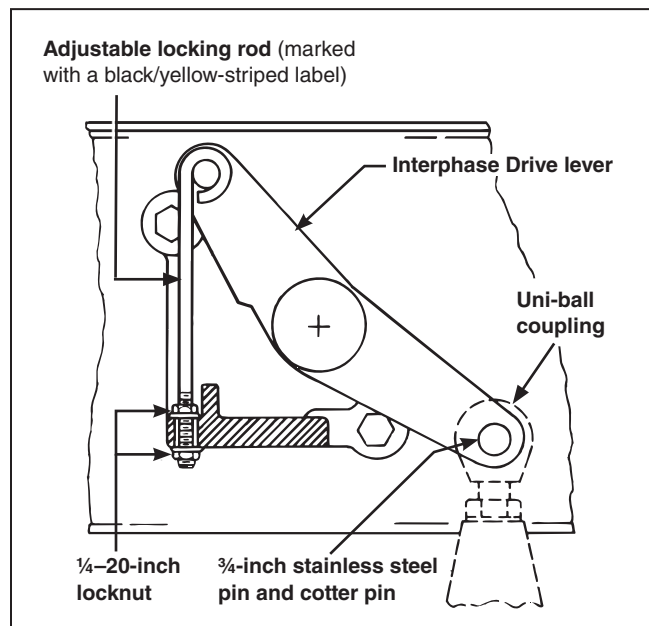

Figure 21. Attaching the Uni-ball coupling to the interphase drive lever.
- STEP 1.** Attach the uni-ball coupling on the operator connecting link to the interphase drive lever in the high-speed base using the $\frac{3}{4}$ -inch stainless steel pin and cotter pin retained from Step 1 on page 13. See Figure 21. An adjustable locking rod (marked with a black/yellow-striped label) is furnished factory-connected to the interphase drive lever. Turn the associated $\frac{1}{4}$ -20 locknuts as required to raise or lower the interphase drive lever and thus facilitate insertion of the stainless steel pin.
- STEP 2.** Remove the lower $\frac{1}{4}$ -20 locknut that retains the adjustable locking rod, and remove and discard the adjustable locking rod and locknuts. See Figure 21.